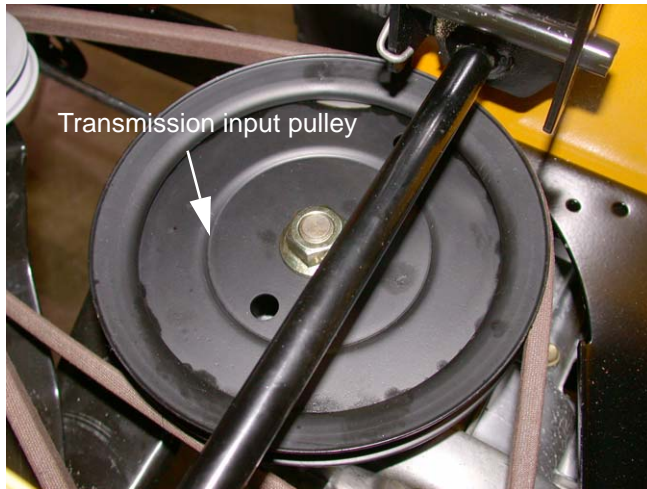

Figure 17.6
- 17.6. Using the slack created by taking the belt off the tensioner pulley, slip the belt off of the transaxle input pulley and the upper sheave of the variable speed pulley and remove the belt from the tractor. You may need to remove the transmission input pulley to get enough clearance to remove the belt. See Figure 17.6.